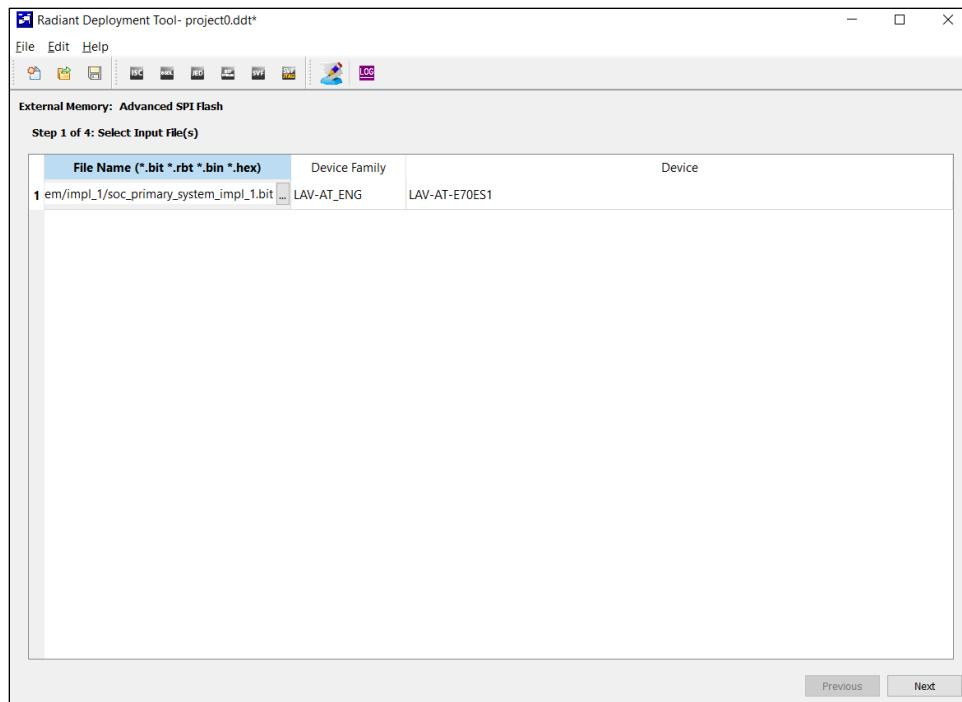

Figure 8.63. External Memory Step 1 of 4: Select Input Files
6. Step 1 of 4: Select the Input File(s) window, as shown in Figure 8.63: